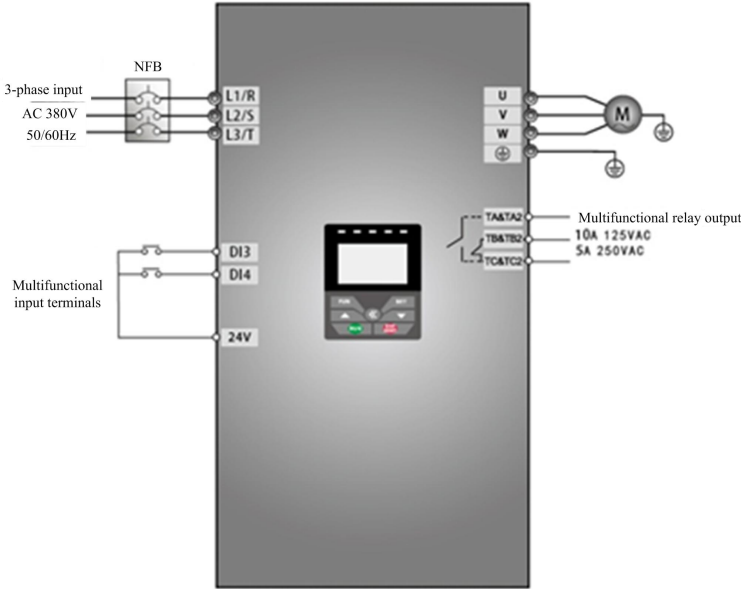

Figure 4-2 Wiring Diagram 2(PNP)
- (1) Connect the wires in accordance with Figure 4-2. After having checked the wiring successfully, switch on the air switch, and power on the inverter;